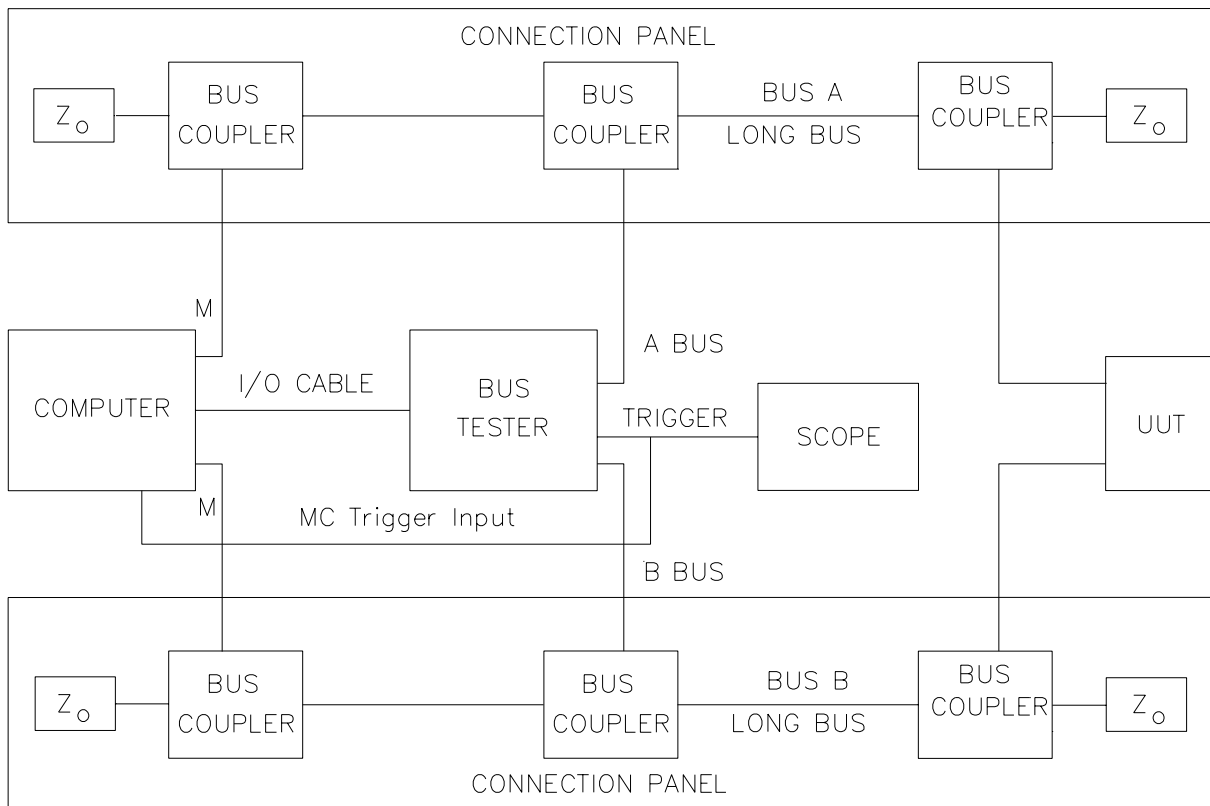
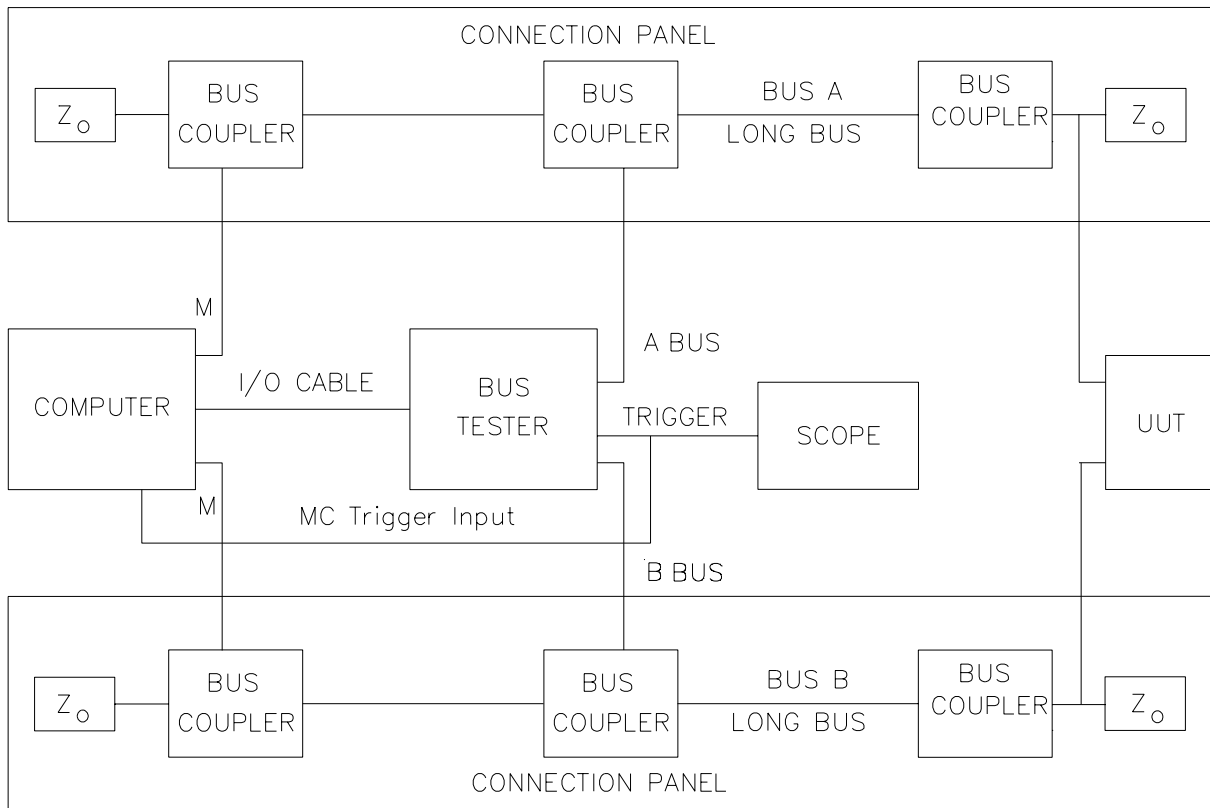

Figure 11. Protocol Tests Transformer Coupled Configuration
Figure 12. Protocol Tests Direct Coupled Configuration
- A. Connect the equipment as shown in Figure 11 or Figure 12 for the transformer coupled or direct coupled buses to be tested. See Figure 1B of the RT Validation Test Plan for the General Bus Configuration. The oscilloscope is not required for running Protocol tests but may be connected to the monitor outputs (MON) on the back of the 1553 BUS TESTER to observe bus traffic.
A. Connect the equipment as shown in Figure 11 or Figure 12 for the transformer coupled or direct coupled buses to be tested. See Figure 1B of the RT Validation Test Plan for the General Bus Configuration. The oscilloscope is not required for running Protocol tests but may be connected to the monitor outputs (MON) on the back of the 1553 BUS TESTER to observe bus traffic.